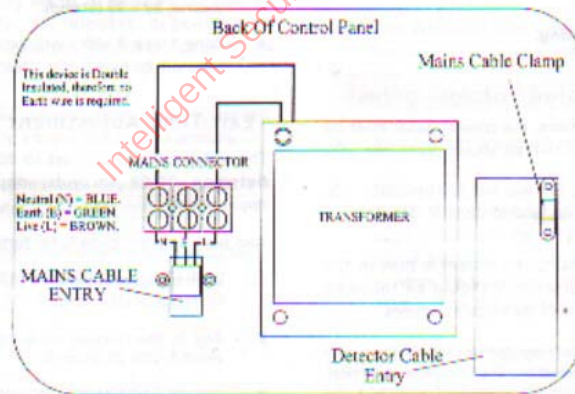

Fig. 21. Mains Wiring To Control Panel Transformer
1. Run the required length of 5 amp 3-core mains flexi-cable between the control panel and spur unit. Feed one end through the cable entry and connect to the mains transformer terminal block, as shown in Fig. 21.